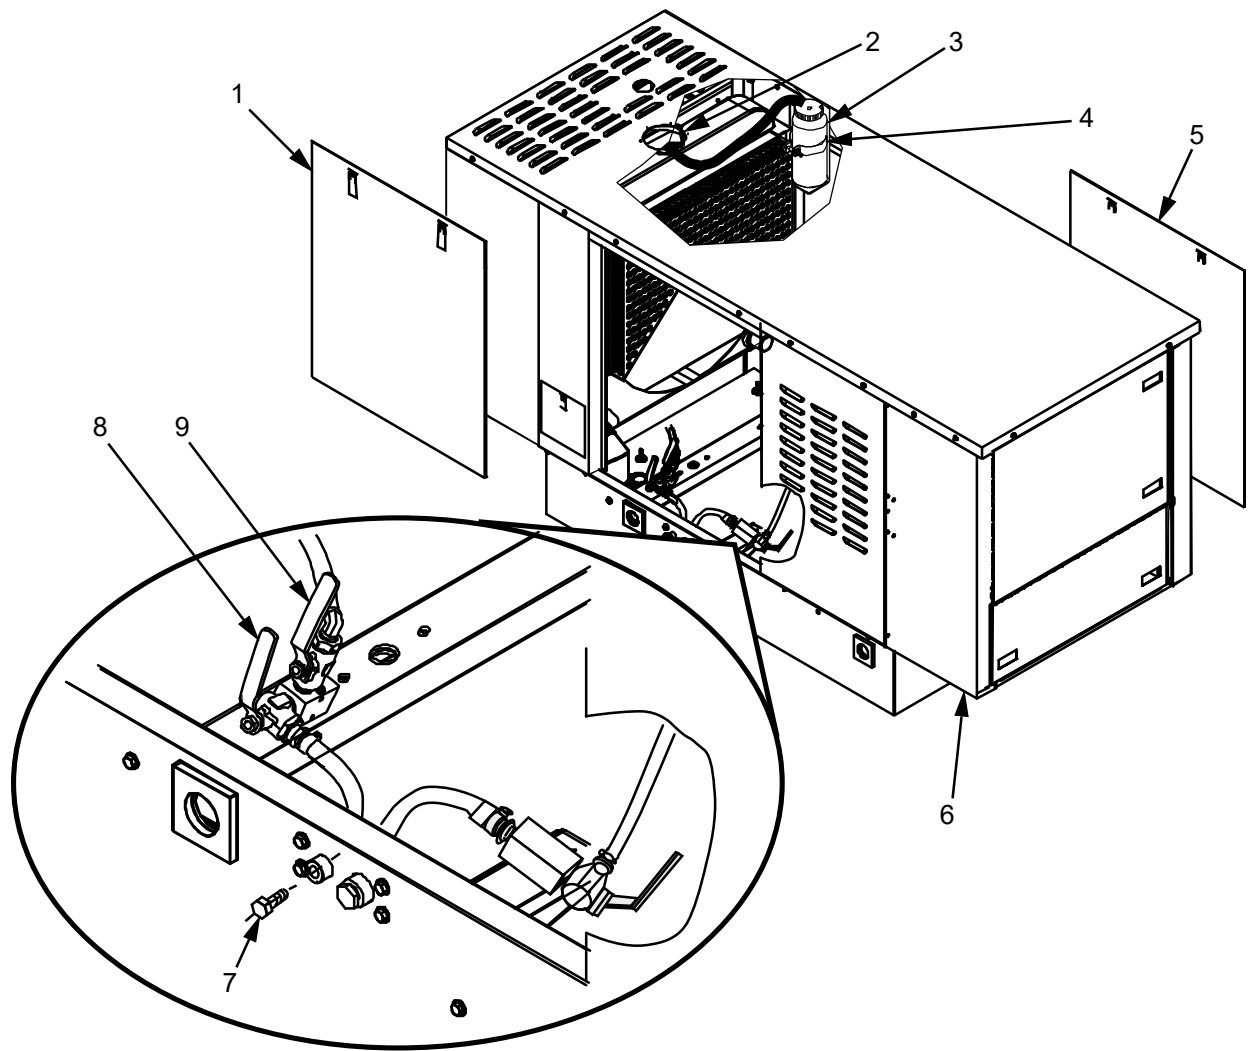

Figure 1. Engine Coolant - Service.
6. Open coolant drain valves (Figure 1, Item 8 and 9) inside Genset enclosure. Allow coolant to drain into drain pan.
7. Once flow of coolant starts to slow, remove radiator cap (Figure 1, Item 2).
8. Loosen clamp (Figure 1, Item 4), remove coolant reservoir bottle (Figure 1, Item 3) and dump contents into drain pan. Rinse coolant reservoir bottle (Figure 1, Item 3) with clean water.
1. Return coolant reservoir bottle (Figure 1, Item 3) to holder and secure with clamp (Figure 1, Item 4).
2. Close coolant drain valves (Figure 1, Items 8 and 9).
4. Wrap coolant drain plug threads (Figure 1, Item 7) with Tape, Antisiezing, install, and tighten.
5. Place funnel into radiator fill opening under radiator cap (Figure 1, Item 2) through access hole on top of the Genset.
6. Add proper coolant/water mix (see Table 1) as necessary to bring the radiator to proper level. Replace the radiator cap (Figure 1, Item 2) and tighten.
7. Add coolant mix as necessary to bring the coolant reservoir bottle (Figure 1, Item 3) 1/3 to 1/2 full.
10. Shut down Genset (Figure 1, Item 6) in accordance with WP 0005, Genset Stop Procedure.
12. Replace front and rear access panels (Figure 1, Items 1 and 5) on Genset (Figure 1, Item 6).